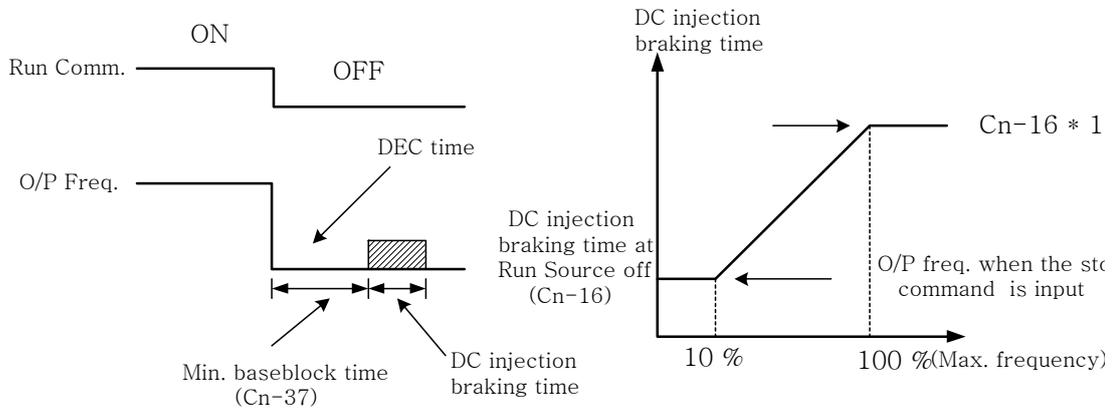

Figure 32 Whole range DC Injecting Braking Stop
- The DC injection braking time depends upon the output frequency when the stop command is input and the “DC injection time at stop” setting (Cn-16) as shown in Fig 32.
- Lengthen the minimum baseblock time (Cn-37) when an overcurrent (OC) occurs during stopping. When the power to an induction motor is turned OFF, the counter-electromotive force generated by the residual magnetic field in the motor can cause an overcurrent to be detected when DC injection braking stop is applied.